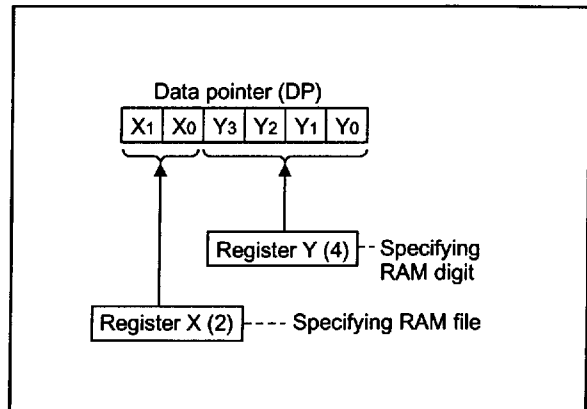

Fig. 8 Data pointer (DP) structure
**(9) Data pointer (DP)**
Data pointer (DP) is used to specify a RAM address and consists of registers X and Y. Register X specifies a file and register Y specifies a RAM digit (Figure 8).